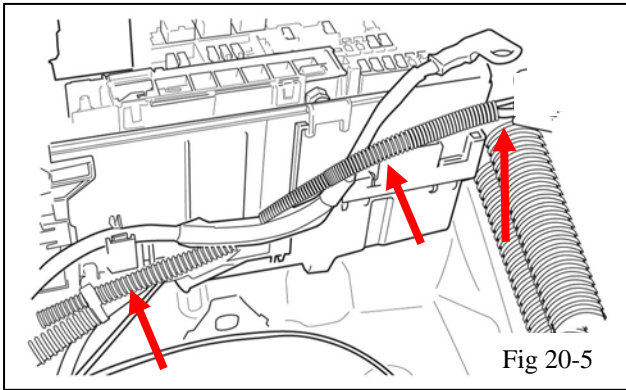

Fig 20-5
- (e) Route the wire harness containing the 10 gauge red wire and the yellow wire along the front of the fuse panel from the fender to the inside of the fuse box (Fig 20-5). Note: the battery is removed for clarity in the figure. Feed both wires up into the fuse box through the same opening used by the vehicle wiring harness.